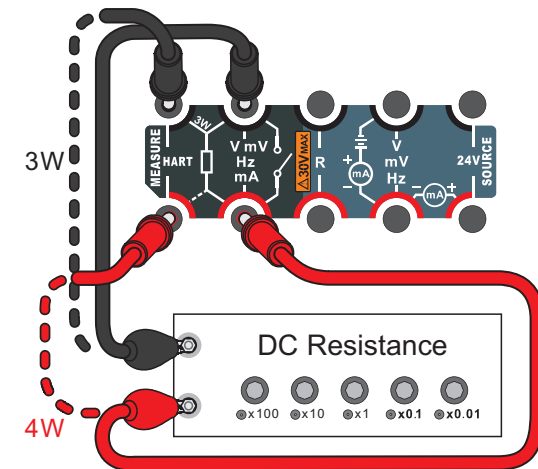

Figure 8.5 Resistance Measurement
1. Figure 8.5 shows the resistance measurement connections.